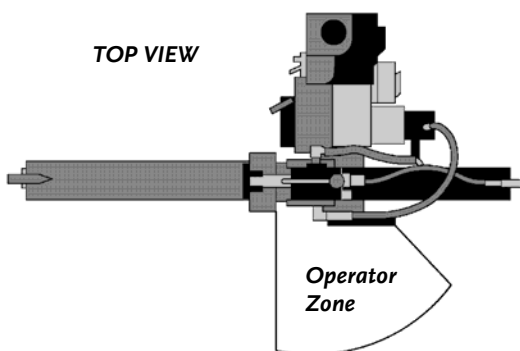

Figure 22
WHEN OPERATING THE WOOD SPLITTER, MAKE SURE YOU ARE IN THE SAFE OPERATING AREA (OPERATOR ZONE) AS SHOWN IN FIGURE 22. YOU MUST STAY IN THE SAFE OPERATING AREA AT ALL TIMES WHEN THE SPLITTING WEDGE IS IN MOTION (WHETHER EXTENDING OR RETRACTING). NEVER PLACE ANY PART OF YOUR BODY INTO A POSITION THAT CAUSES AN UNSAFE OPERATING CONDITION.
5. Using only your hand, push the Valve Control Handle forward (towards the log) (Figure 28). If the log moves before it is contacted by the Push Plate, release the Valve Control Handle and then reposition the log. Operate the Wood Splitter only when in the safe operating area, as shown in Figure 22.